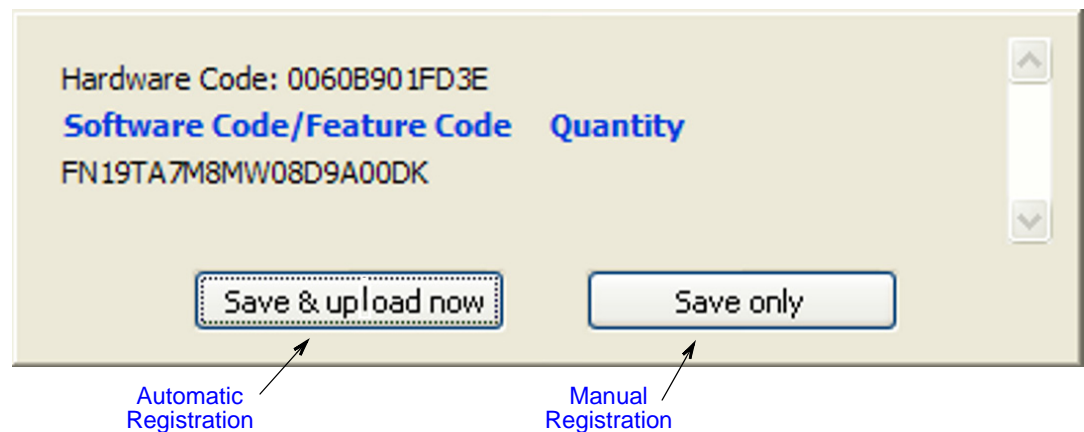

Figure G-2 Feature Activation Confirmation Dialog
6. When the confirmation dialog is returned, click **Save & upload now** to immediately save the file on the ProPro database and activate the feature. (Refer to Figure G-2 Feature Activation Confirmation Dialog on page G-3.)
5. When the confirmation dialog is returned, click **Save & upload now** to immediately save the file on the ProPro database and activate the feature (refer to Figure G-2 Feature Activation Confirmation Dialog).